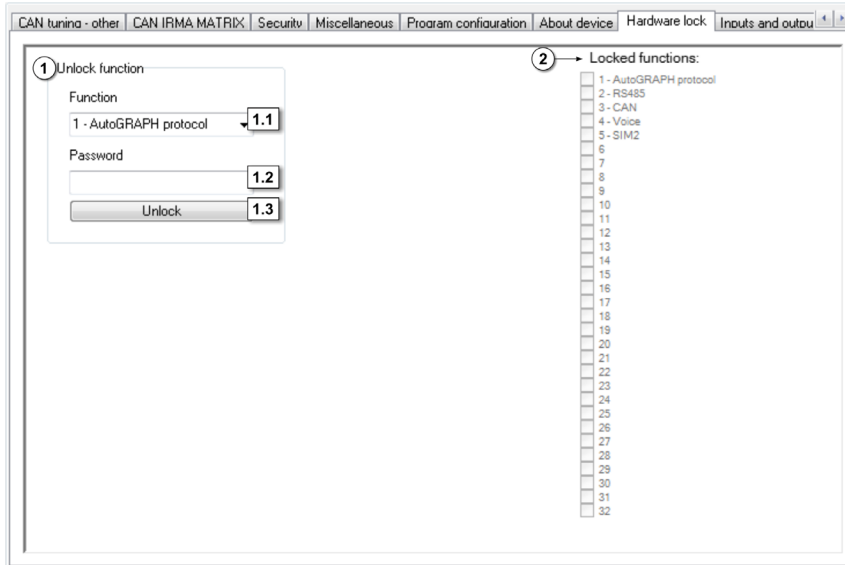

Fig.48. “Hardware lock” tab.
- Switch on the output by checking the box associated with this output. After that the output indicator is highlighted in colour (Fig.48) and the output switches to active state.